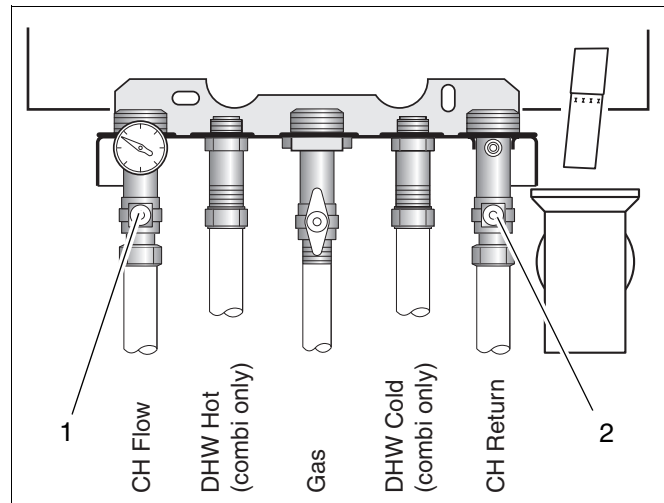

fig. 32 Maintenance shutoff valves
- If necessary open the CH flow and CH return maintenance valves (→ fig. 32, item 1 and 2).